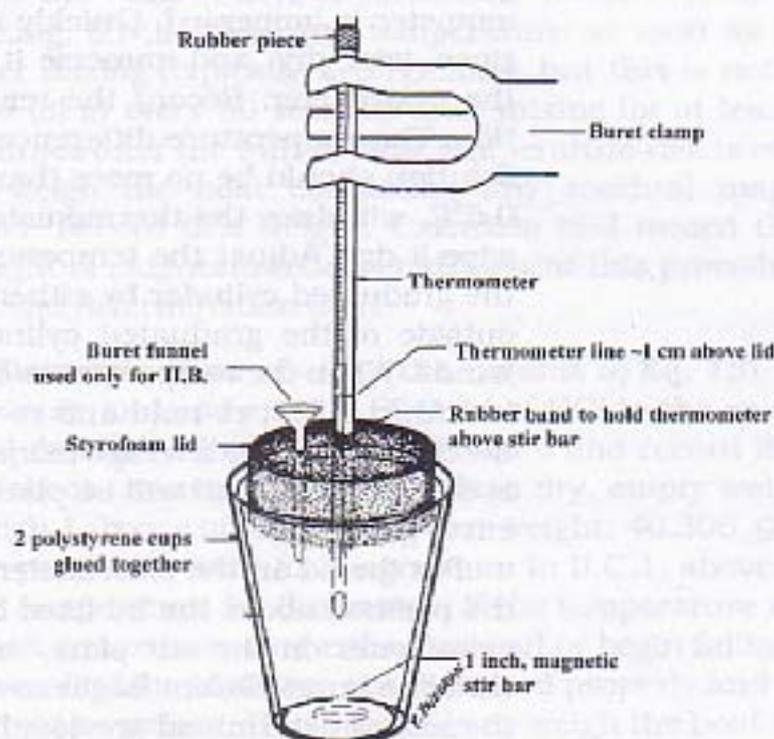

Figure 3. Calorimeter
Assemble the calorimeter according to Figure 3. Take care with the special thermometer. It is calibrated to  $0.1^\circ\text{C}$  and is rather expensive. The thermometer should be held in the buret holder with the aid of a rubber band and a buret clamp. Hold your hand underneath the thermometer when you first insert it into the buret clamp until you are assured that it is tightly held in place. When inserted in the calorimeter, the line on the thermometer should be  $\sim 1 \text{ cm}$  above the top of the lid (measure with your ruler) so that the
Put the lid on the calorimeter, insert the thermometer to the position above the lid fixed by the rubber band, set the calorimeter on the stir plate, and clamp the thermometer with the buret clamp. Begin to stir the acid solution using the setting determined previously. Then add the NaOH solution by pouring it through the funnel in the second hole of the cap (Figure 3). Record (1) the time of mixing, (2) the time